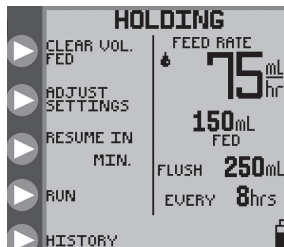

Figure 18A. **HOLDING** mode options, continuous feeding mode.
- **HOLDING** screens (Figure 18A)
There are five options available during **HOLDING**. See Figures 18A and 18B.